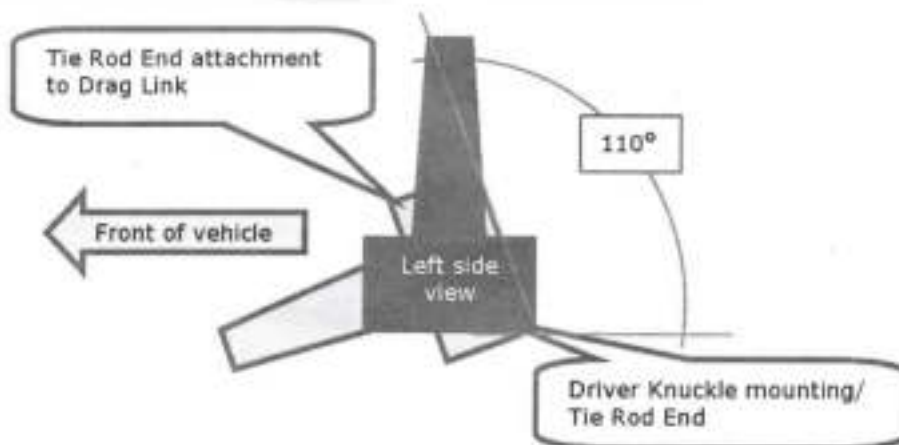

Figure 9 - Drag Link Alignment for Haltenberger Linkage
1. Tie Rod End Alignment - Repeat steps 1-9 above for Tie Rod End alignment. The Tie Rod End attachment at the Drag Link should be 110° to the Tie Rod End at the Driver Knuckle. (Fig. 9) If the end is not at 110° , loosen the adjuster clamp and rotate one end until 110° difference between the ends is achieved.